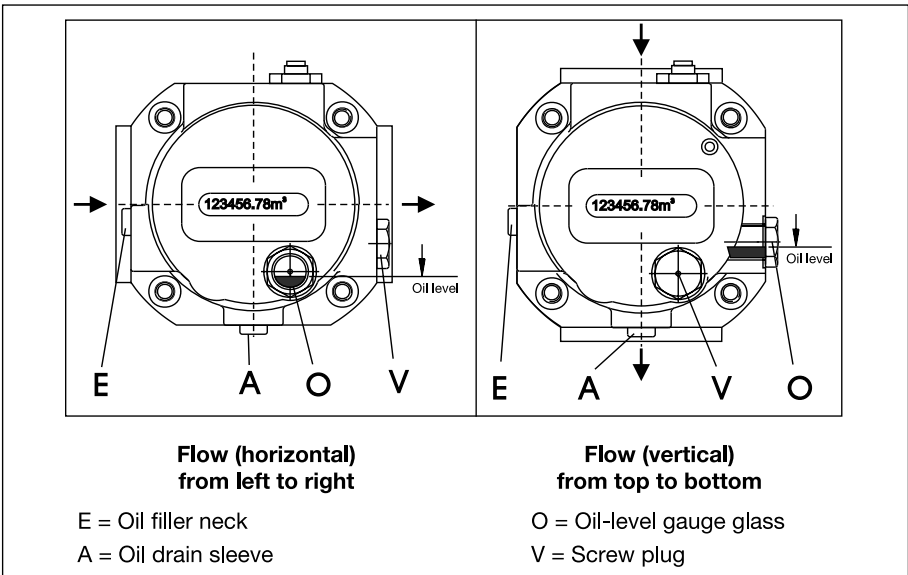

Figure 8: Horizontal and vertical installation positions, oil filling and oil-level display for **Type RVG-ST**
- In the case of **horizontal flow**, there are two openings available for filling with oil (E or V). The drain opening A is located at the lowest point. The oil-level gauge glass O is located on the front side of the meter, below the index (Figure 8, left).
- In the case of **vertical flow**, there is only one opening available (E) for filling with oil. The drain opening A is located at the lowest point. The oil-level gauge glass is now located on the right on the front housing cover (Figure 8, right).